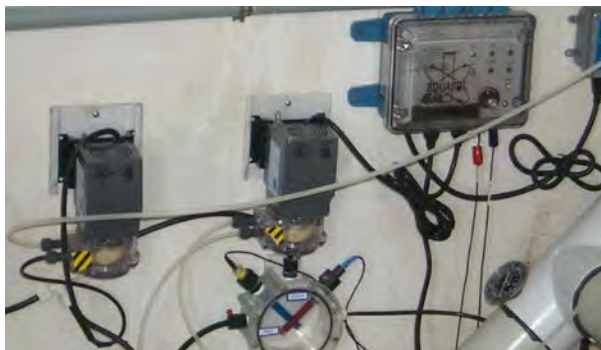

Figure 4-3: Liquid feeders controlled by an ORP unit
- Liquid feeders: Liquid chlorine is fed through a pump that uses rollers to force the liquid through a flexible tube (Fig 4-3).
Oxidation Reduction Potential (ORP) controllers (Fig. 4-3) monitor the disinfectant effectiveness and (often) the pH of the swimming pool or spa water, feeding chemicals as necessary. They go under the trade names of Aquasol[®], Chemtrol[®], or Stran-Trol[®], among others. These controllers are required for newly constructed spas as of December 1998. However, many existing pools and spas have installed them as well.